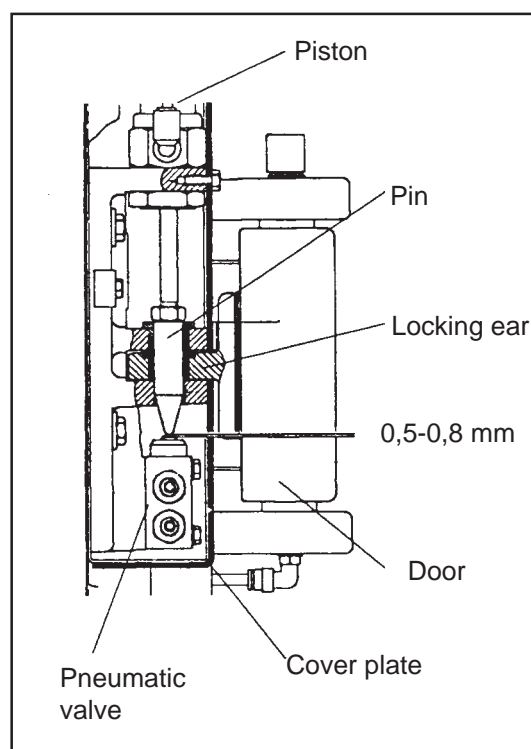

Figure 5.
7. Adjust the pneumatic valve position so the clearance between the pins' end and the plane on the valve sensor is between 0.5 and 0.8 mm (Figure 5). Tighten the valve with torque 11 Nm.